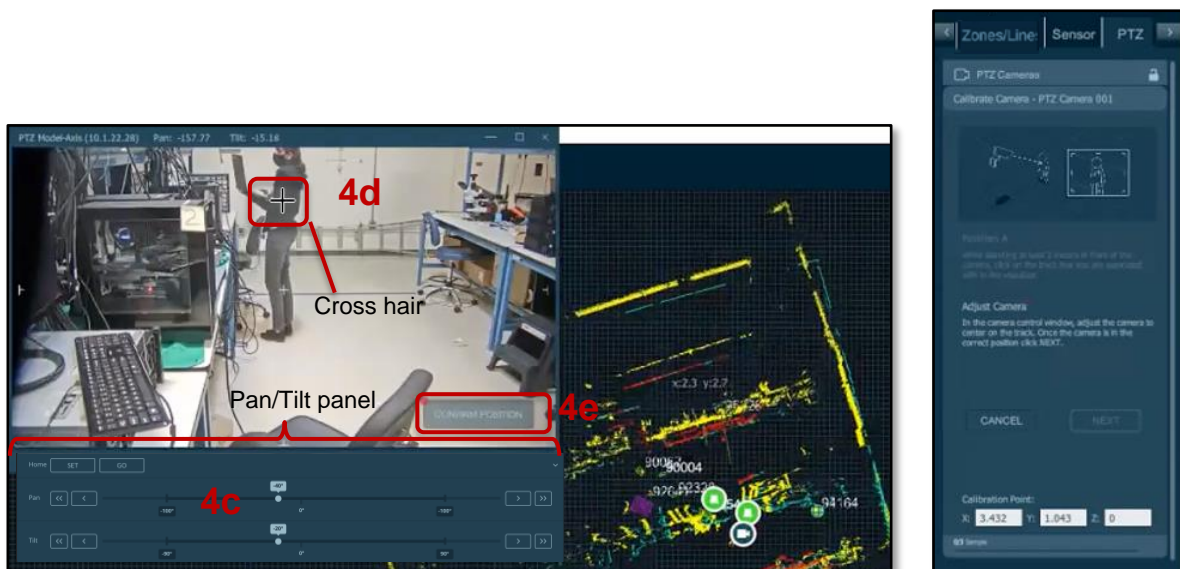

Figure 73. PTZ Camera Calibration: Set Video Position
- e. In the PTZ camera tab, click **CONFIRM POSITION** button. See Figure 73. PTZ Camera Calibration: Set Video Position.